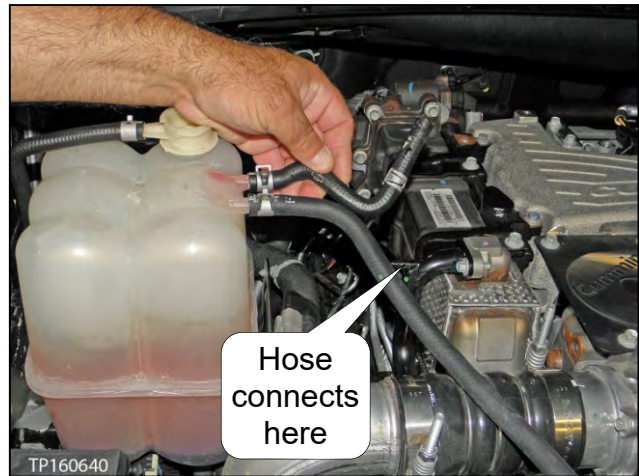

Figure 119
48. Connect the reservoir tank coolant line (see Figure 119).